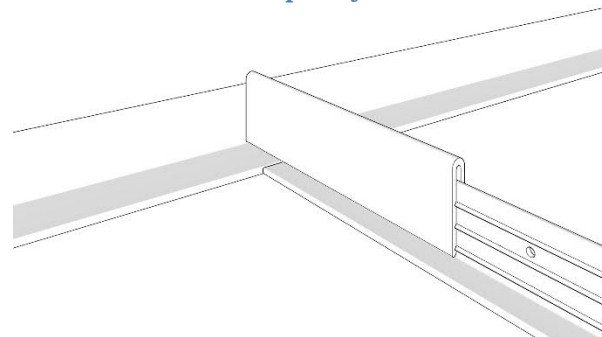

FIG. 9
6. Install the **Splice Clamp** at terminating end (**Splice-End Junction**) of the **Mainrail** (opposite starting end, opposite **T-Clamp**). This end "floats" to provide building and ceiling movement and provides a flush **Rail** finish. FIG. 9